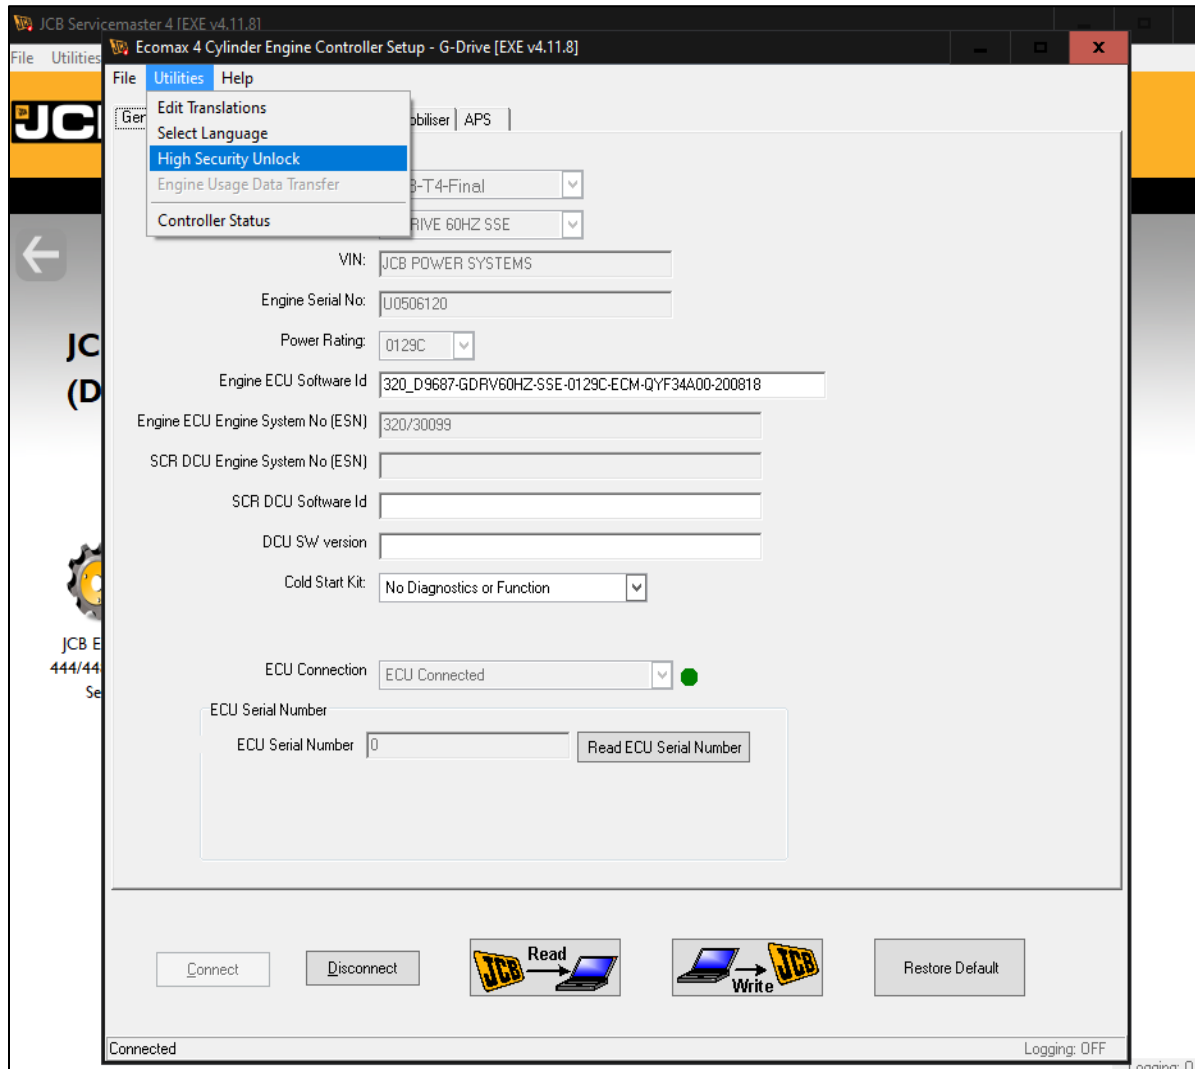

Figure 4
4. Open the tool with the machine 'Keyed On' and allow the tool to populate with the appropriate information. Once the tool is finished reading the engine ECM data, navigate to the 'Utilities' button on the top row and locate 'High Security Unlock' and click on it. See figure 4 below.